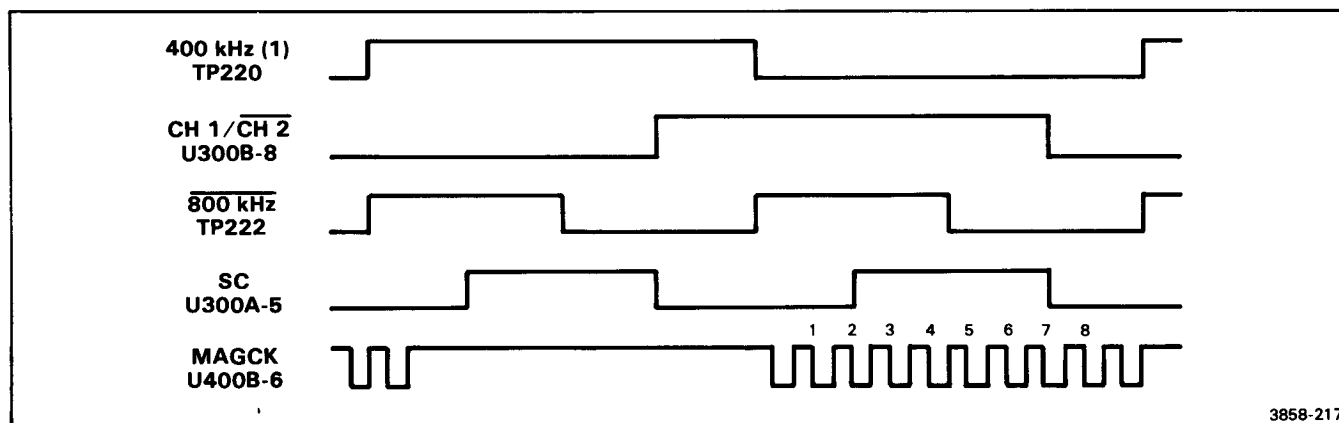

Figure 2-29. Start Conversion (SC), Ch 1/Ch 2 and Magnifier Clock (MAGCK) signal timing.
Flip-flop U300A generates the 800-kHz start conversion clock (SC)—see Figure 2-29. The SC signal initiates the A to D conversion of the CCD samples (see the description of the CCD output circuitry).